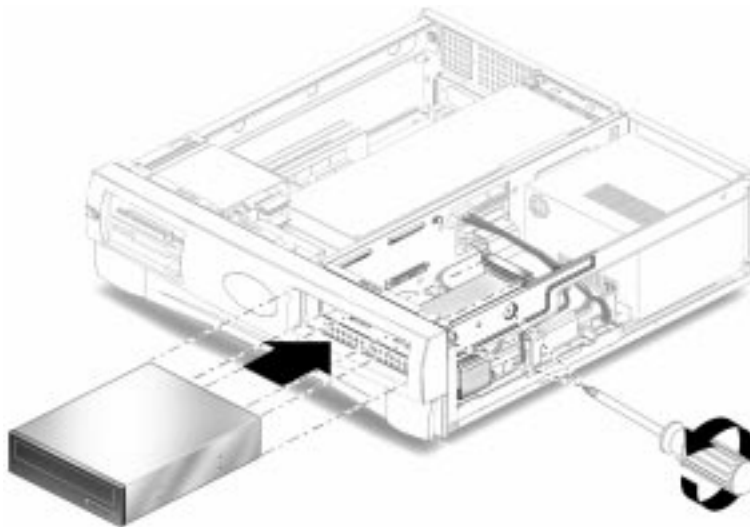

FIGURE 7-6 Removing and Replacing a CD-ROM or DVD-ROM Drive
3. **Remove the following from the back of the CD-ROM or DVD-ROM drive (FIGURE 7-6):**
1. **Position the CD-ROM or DVD-ROM drive in the chassis (FIGURE 7-6).**